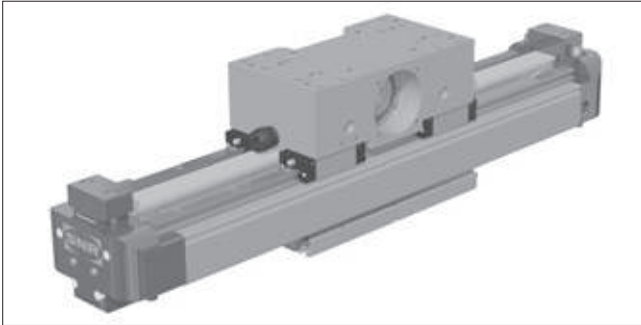

Figure 5.15 __ AXS Telescopic Axis, horizontal with toothed belt / Ω - drive
- Telescopic Axis for horizontal and vertical use (Figures 5.15 up to 5.17)